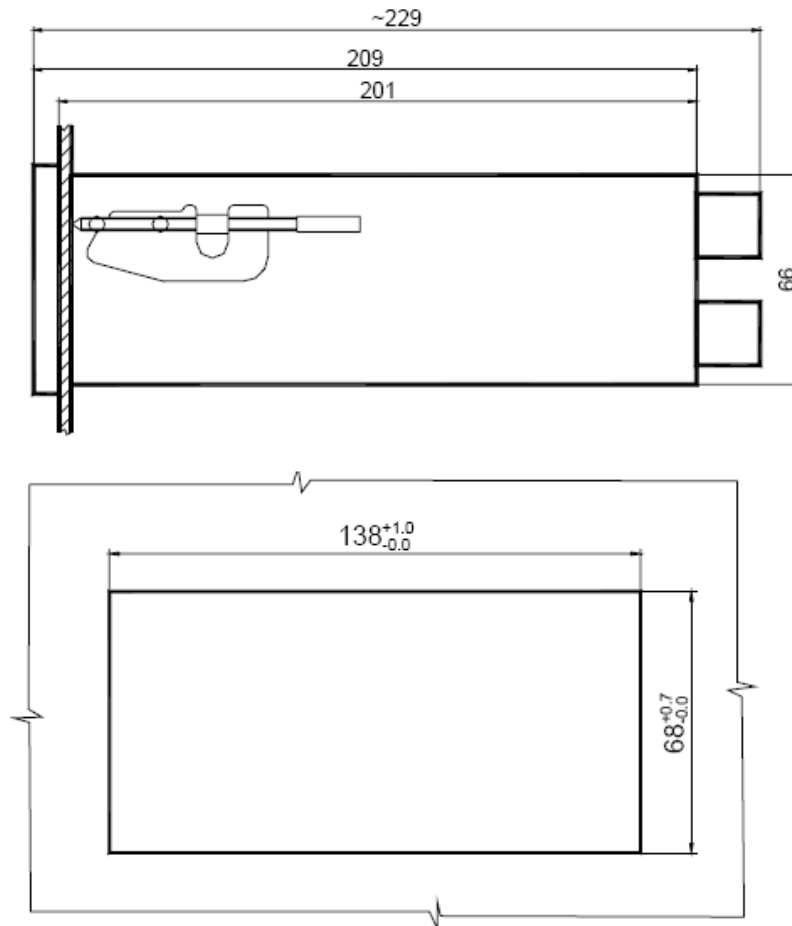

Figure 3. Mechanical dimensions, panel cutout
TQI-021/1 is encapsulated in a standard size plastic enclosure that is to be built in by Figure 3. The front panel consists of a foil keypad and a graphic LCD display. The rear panel contains the terminals for connecting input and output cables. The cables must be fixed near their end by cable fixing assemblies for freeing the terminals of stress.
- Prepare the necessary cutout on the instrument panel (Figure 3.)